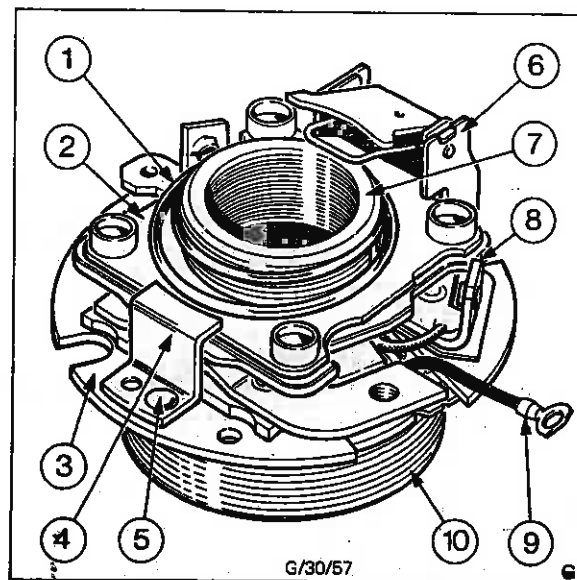

Fig. 16 - Solenoid Switch Assembly
The coils can be checked for shorted or open circuits by measuring current consumption at nominal voltage. 12 VOLT SPARTER SOLENOIDS ONLY are dual wound and consist of a pull-in and hold-on winding, therefore before testing these, a link should be made between the base of the contact assembly (3) Fig. 16, and the terminal lug (8) on earth return versions, or between the green lead and terminal lug (8) on insulated return versions.
Examine the contacts and, if necessary, clean them with white spirit or very fine carborundum paper. The first stage gap should be 2,1 mm (0,083 in) with a bottom limit of 1,93 mm (0,076 in) and a maximum of 2,5 mm (0,098 in). Press down the plunger and check that the second stage contacts make only after the trigger is tripped. Slight adjustments can be made by bending the brass contact stop (4), Fig. 16.
1. Remove the burred over ends of the rivet (5) Fig. 16, also the rivets securing the trigger assembly (6) using a 4,75 mm (0,187 in) diameter drill.
2. Carefully punch out the rivets and remove the contact stop (4) and trigger assembly. Examine the trigger assembly for wear on the pivot points, if excessive, fit a new trigger assembly.
3. Withdraw plunger (7) and plunger spring (1) moving contact assembly (2) and inner spring as one assembly.
4. Unsolder the red solenoid lead connected to the fixed contact lug (8) on 12 volt machines, also the bare solenoid lead connected to the fixed contact baseplate on all earth return machines.
5. Remove the fixed contact assembly (3).
6. Locate the fixed contact assembly (3) on the solenoid coil (10). Ensure the contact plate rivet holes line up with those in the solenoid coil plate.
8. Push the solenoid plunger fully home. With the plunger held in this position, replace the contact stop (4) and trigger assembly (6) and rivet them in position.
9. Solder the red solenoid lead to the fixed contact lug (8) on all 12 volt machines. On all earth return machines, solder the other bare solenoid lead to the fixed contact baseplate, localising the area of solder. Test security of joint with a sharp tug on the lead.